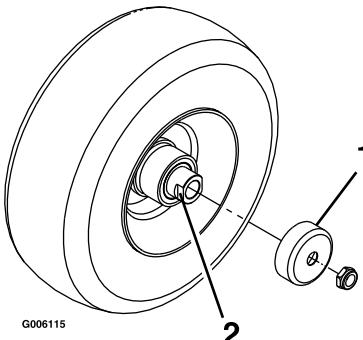

Figure 42
3. Remove the seal guards from the wheel hub \(Figure 42\).